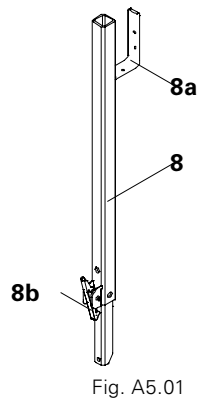

Fig. A5.01
The Post Extension (8) can be combined with all post connections. (Fig. A5.01)